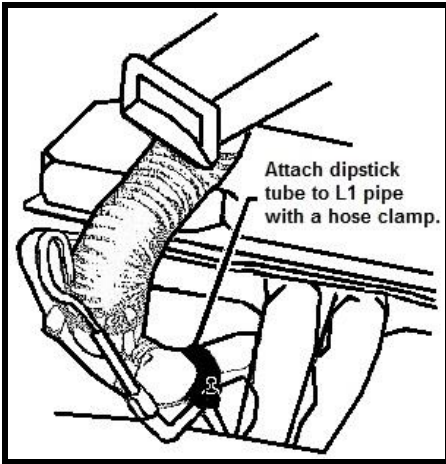

Figure 1
10. Modify and install the dipstick tube as shown in **Figure 1**.